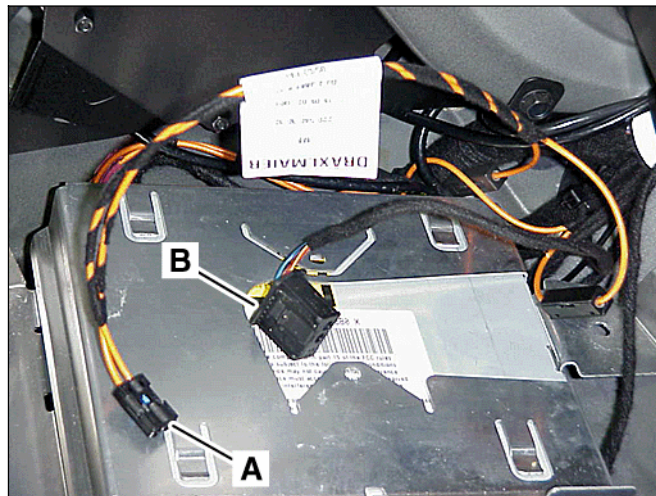

Figure 11
9. Insert the connector (A, Figure 11) of the MOST adapter harness into the back of the SDAR power supply connector (B, Figure 11).